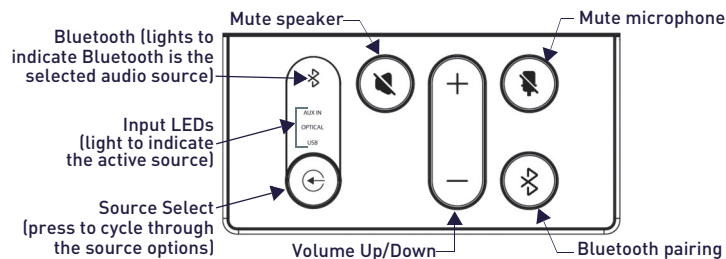

FIG. 8 ACV-2100 LEFT SIDE PANEL KEYPAD
All controls and LEDs are on the left side panel of the ACV-2100 (FIG. 8):
1. With the ACV-2100 powered on, press the Bluetooth button on the Side Panel Keypad (see FIG. 8) to turn Bluetooth on. This button lights to indicate that Bluetooth is on.
1. Press the Bluetooth button on the left side panel of the ACV-2100 to turn Bluetooth on and initiate pairing (FIG. 8).